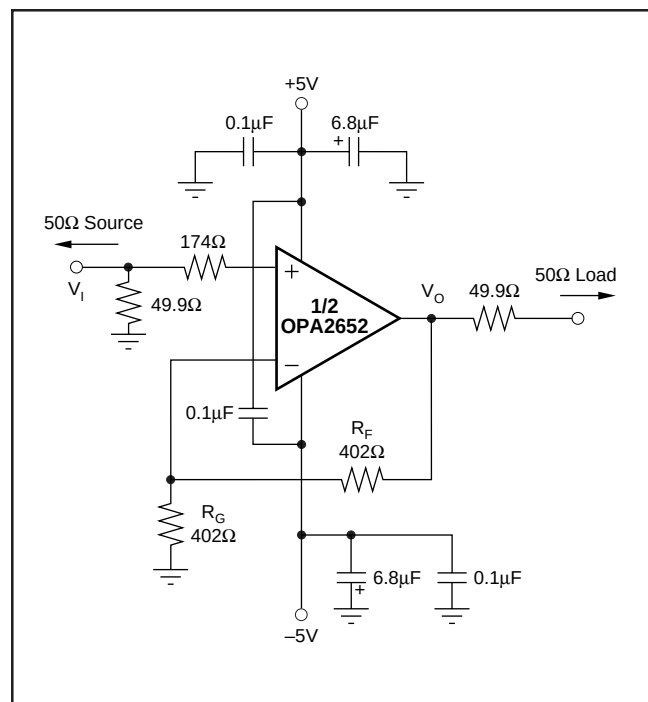
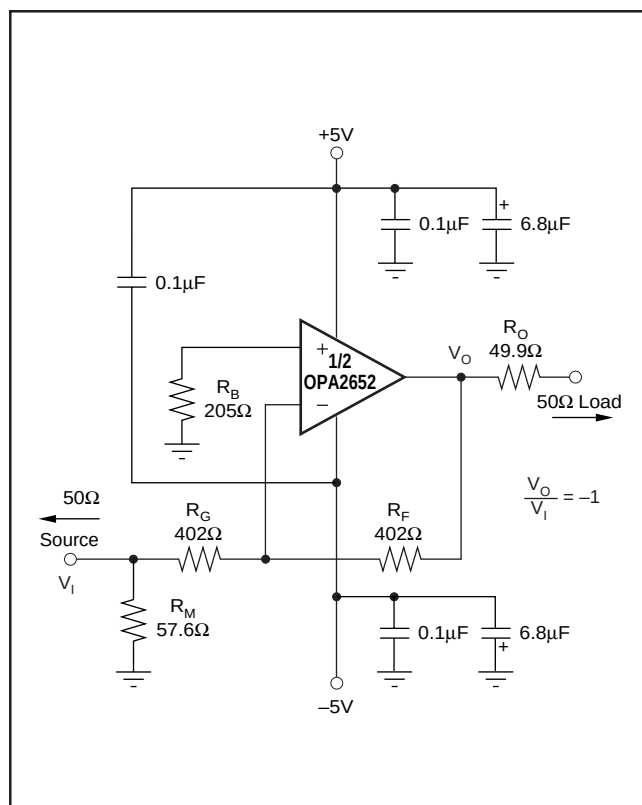

FIGURE 1. DC-Coupled, $G = +2$, Bipolar Supply, Specification and Test Circuit.
FIGURE 2. DC-Coupled, $G = -1$, Bipolar Supply, Specification and Test Circuit.
At $T_A = +25^\circ\text{C}$, $G = +2$, $R_F = 402\Omega$, and $R_L = 100\Omega$, unless otherwise noted. See Figures 1 and 2.
At $T_A = +25^\circ C$, $G = +2$, $R_F = 402\Omega$, and $R_L = 100\Omega$, unless otherwise noted. See Figures 1 and 2.
Figure 1 shows the DC-coupled, gain of +2, dual power supply circuit configuration used as the basis of the $\pm 5\text{V}$ Specifications and Typical Performance Curves. This is for one channel. The other channel is connected similarly. For test purposes, the input impedance is set to 50Ω with a resistor to ground and the output impedance is set to 50Ω with a series output resistor. Voltage swings reported in the specifications are taken directly at the input and output pins, while output powers (dBm) are at the matched 50Ω load. For the circuit of Figure 1, the total effective load will be $100\Omega \parallel 804\Omega$. Two optional components are included in Figure 1.
Figure 2 shows the DC-coupled gain of -1 , bipolar supply circuit configuration which is the basis of the Specifications and Typical Performance Curves at $G = -1$. The input impedance matching resistor (57.6Ω) used for testing gives a 50Ω input load. A resistor (205Ω) connects the non-inverting input to ground. This provides the DC source resistance matching to cancel outputs errors due to input bias current.
A good rule of thumb is to target the parallel combination of R_F and R_G (Figure 1) to be less than approximately 300Ω . The combined impedance $R_F \parallel R_G$ interacts with the inverting input capacitance, placing an additional pole in the feedback network, and thus a zero in the forward response. Assuming a $2pF$ total parasitic on the inverting node, holding $R_F \parallel R_G < 300\Omega$ will keep this pole above $250MHz$. By itself, this constraint implies that the feedback resistor R_F can increase to several $k\Omega$ at high gains. This is acceptable as long as the pole formed by R_F and any parasitic capacitance appearing in parallel is kept out of the frequency range of interest.
Voltage feedback op amps exhibit decreasing closed-loop bandwidth as the signal gain is increased. In theory, this relationship is described by the Gain Bandwidth Product (GBP) shown in the specifications. Ideally, dividing GBP by the non-inverting signal gain (also called the Noise Gain, or NG) will predict the closed-loop bandwidth. In practice, this only holds true when the phase margin approaches 90° , as it does in high gain configurations. At low gains (increased feedback factor), most amplifiers will exhibit a wider bandwidth and lower phase margin. The OPA2652 is compensated to give a flat response in a non-inverting gain of 1 (Figure 1). This results in a typical gain of +1 bandwidth of 700MHz, far exceeding that predicted by dividing the 200MHz GBP by $NG = 1$. Increasing the gain will cause the phase margin to approach 90° and the bandwidth to more closely approach the predicted value of (GBP/NG) . At a gain of +5, the 45MHz bandwidth shown in the Typical Specifications is close to that predicted using this simple formula.
Since the OPA2652 is a general purpose, wideband voltage feedback op amp, all of the familiar op amp application circuits are available to the designer. Inverting operation is one of the more common requirements and offers several performance benefits. Figure 2 shows a typical inverting configuration.
In the inverting configuration, three key design consideration must be noted. The first is that the gain resistor (R_G) becomes part of the signal channel input impedance. If input impedance matching is desired (which is beneficial whenever the signal is coupled through a cable, twisted pair, long PC board trace or other transmission line conductor), R_G may be set equal to the required termination value and R_F adjusted to give the desired gain. This is the simplest approach and results in optimum bandwidth and noise performance. However, at low inverting gains, the resultant feedback resistor value can present a significant load to the amplifier output. For an inverting gain of -1 , setting R_G to 50Ω for input matching eliminates the need for R_M but requires a 50Ω feedback resistor. This has the interesting advantage that the noise gain becomes equal to 2 for a 50Ω source impedance—the same as the non-inverting circuits considered above. However, the amplifier output will now see the 50Ω feedback resistor in parallel with the external load. In general, the feedback resistor should be limited to the 200Ω to $1.5k\Omega$ range. In this case, it is preferable to increase both the R_F and R_G values as shown in Figure 2, and then achieve the input matching impedance with a third resistor (R_M) to ground. The total input impedance becomes the parallel combination of R_G and R_M .
The second major consideration, touched on in the previous paragraph, is that the signal source impedance becomes part of the noise gain equation and influences the bandwidth. For the example in Figure 2, the R_M value combines in parallel with the external 50Ω source impedance, yielding an effective
driving impedance of $50\Omega \parallel 57.6\Omega = 26.8\Omega$. This impedance is added in series with R_G for calculating the noise gain (NG). The resultant NG is 1.94 for Figure 2, (an ideal 0Ω source would cause $NG = 2.00$).
The third important consideration in inverting amplifier design is setting the bias current cancellation resistor on the non-inverting input (R_B). If this resistor is set equal to the total DC resistance looking out of the inverting node, the output DC error, due to the input bias currents, will be reduced to (Input Offset Current) $\cdot R_F$. If the 50Ω source impedance is DC-coupled in Figure 2, the total resistance to ground on the inverting input will be 429Ω . Combining this in parallel with the feedback resistor gives 208Ω , which is close to the $R_B = 205\Omega$ used in Figure 2. To reduce the additional high frequency noise introduced by this resistor, it is sometimes bypassed with a capacitor. As long as $R_B < 300\Omega$, the capacitor is not required since its total noise contribution will be much less than that of the op amp's input noise voltage.
The OPA2652 provides good distortion performance into a 100 Ω load on $\pm 5V$ supplies. Increasing the load impedance improves distortion directly. Remember that the total load includes the feedback network; in the non-inverting configuration (Figure 1) this is sum of $R_F + R_G$, while in the inverting configuration, it is just R_F . Also, providing an additional supply decoupling capacitor (0.1 μF) between the supply pins (for bipolar operation) improves the 2nd-order distortion slightly (3dB to 6dB).
Evaluating these two equations for the OPA2652 circuit and component values shown in Figure 1 will give a total output spot noise voltage of $17nV/\sqrt{Hz}$ and a total equivalent input spot noise voltage of $8.4nV/\sqrt{Hz}$. This is including the noise added by the bias current cancellation resistor (205 Ω) on the non-inverting input. This total input-referred spot noise voltage is only slightly higher than the $8nV/\sqrt{Hz}$ specification for the op amp voltage noise alone. This will be the case as long as the impedances appearing at each op amp input are limited to the previously recommended maximum value of 300 Ω . Keeping both $(R_F \parallel R_G)$ and the non-inverting input source impedance less than 300 Ω will satisfy both noise and frequency response flatness considerations. Since the resistor-induced noise is relatively negligible, additional capacitive decoupling across the bias current cancellation resistor (R_B) for the inverting op amp configuration of Figure 2 is not required.
The balanced input stage of a wideband voltage feedback op amp allows good output DC accuracy in a wide variety of applications. Although the high speed input stage does require relatively high input bias current (typically 4 μA out of each input terminal), the close matching between them may be used to significantly reduce the output DC error caused by this current. This is done by matching the DC source resistances appearing at the two inputs. This reduces the output DC error due to the input bias currents to the offset current times the feedback resistor. Evaluating the configuration of Figure 1, using worst-case +25°C input offset voltage and current specifications, gives a worst-case output offset voltage equal to:
As an example, compute the maximum T_J using an OPA2652E (SOT23-8 package) in the circuit of Figure 1 operating at the maximum specified ambient temperature of +85°C and with both outputs driving 2.5V_{DC} into a grounded 100Ω load.